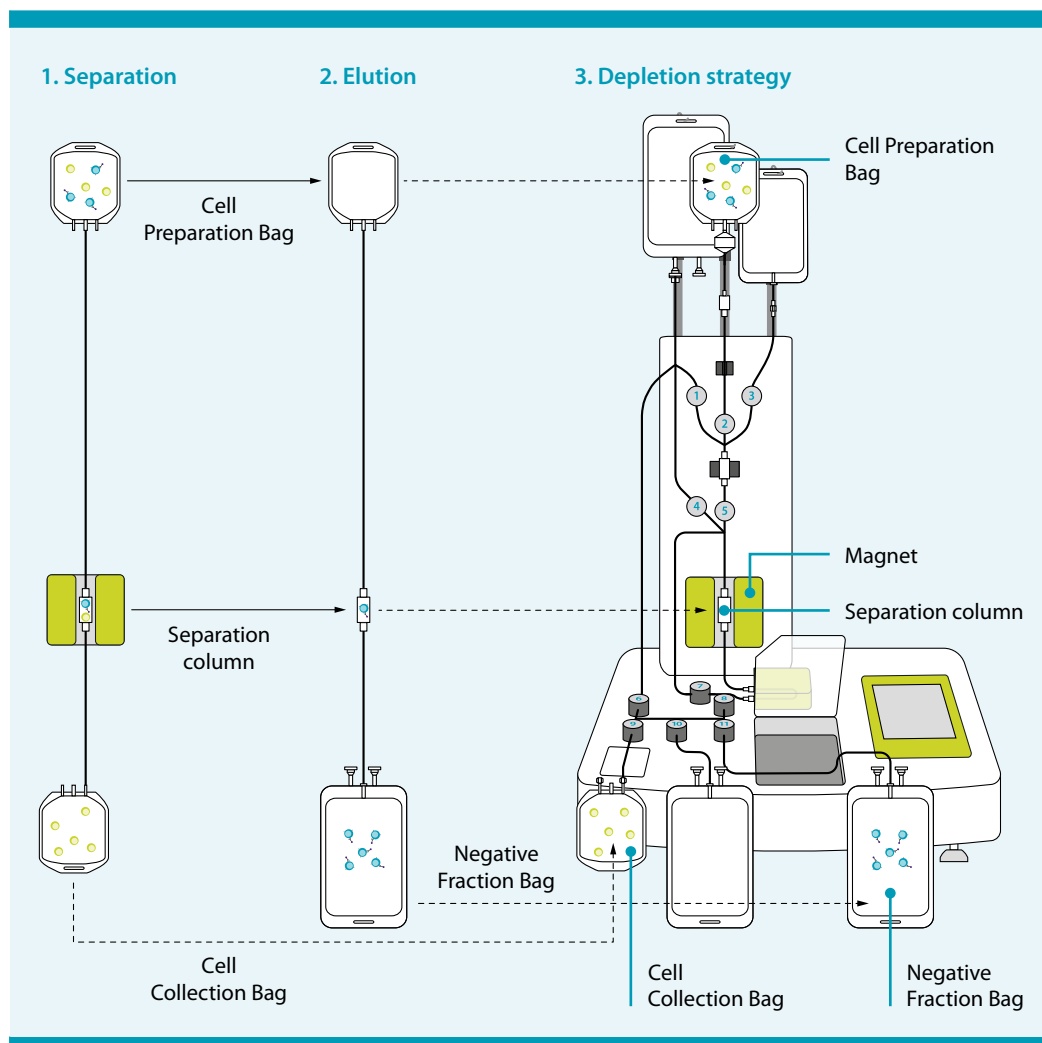
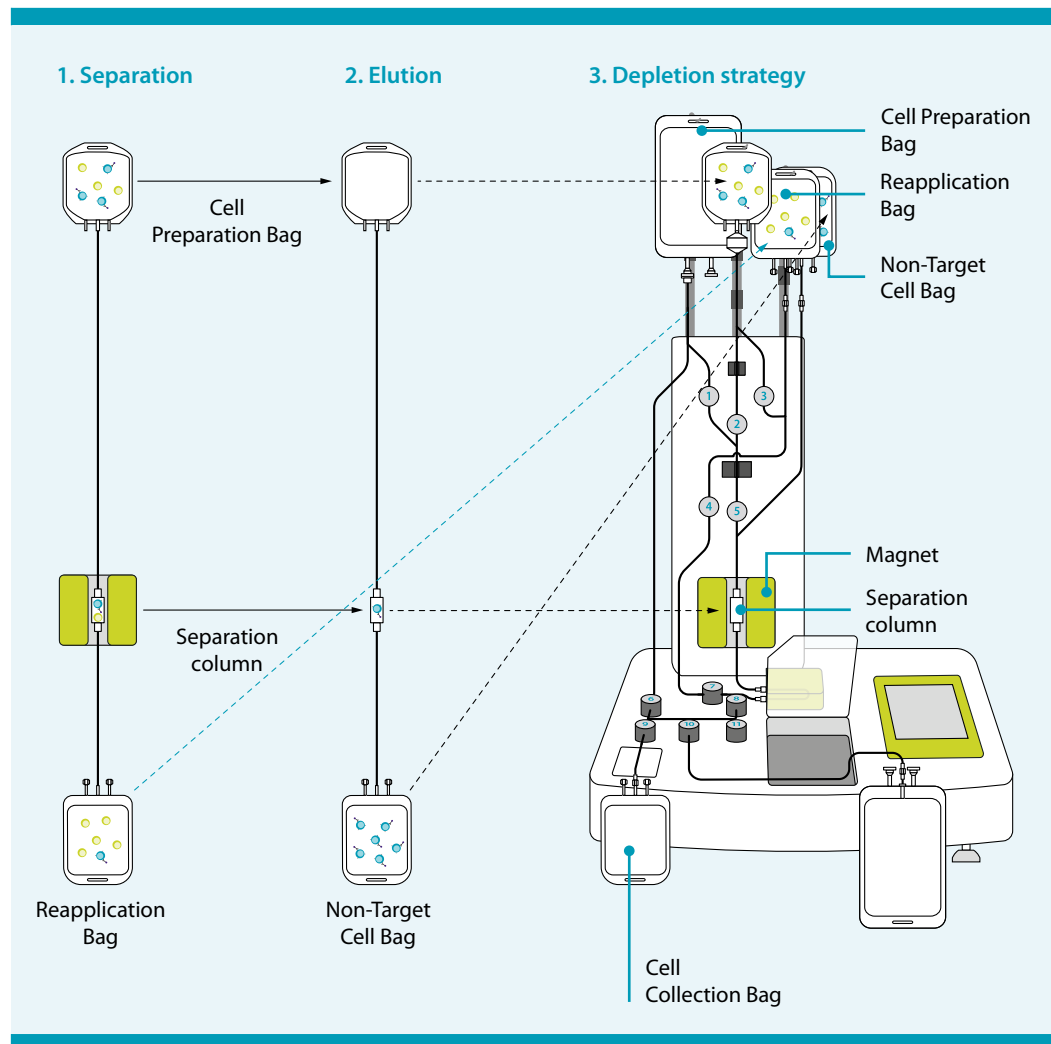
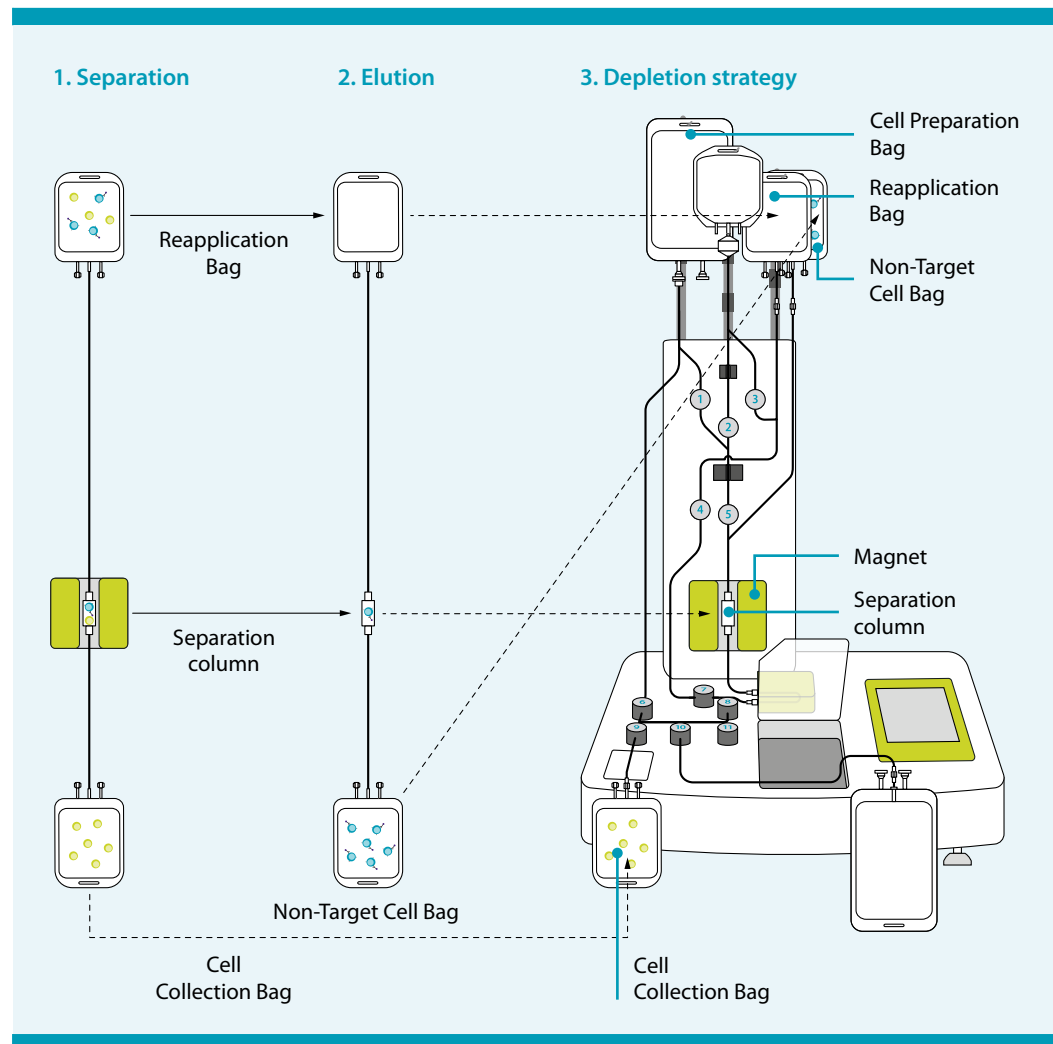

Figure 1.5: Strategy of the depletion program DEPLETION 2.1 using the CliniMACS Tubing Set LS
Figure 1.6: Strategy of the depletion program DEPLETION 3.1 using the CliniMACS Depletion Tubing Set (Part 1)
Figure 1.7: Strategy of the depletion program DEPLETION 3.1 using the CliniMACS Depletion Tubing Set (Part 2)
The MACS Technology is also very efficient for depleting specific cell populations. Unwanted cells are specifically labeled with super-paramagnetic particles and separated from target cells upon passage through the high-gradient magnetic column. In contrast to the enrichment strategy, the non-labeled cells (target cells) are collected in the Cell Collection Bag and the labeled cells (non-target cells) are collected in the Negative Fraction Bag (see Figure 1.5) or in the Non-Target Cell Bag (see Figure 1.6 and Figure 1.7) respectively.
3. The depletion program (DEPLETION 3.1) retains the magnetically labeled cells in the separation column, the non-labeled cells (target cells) flow through the column and are collected in the Reapplication Bag in order to be reloaded onto the separation column in a second sensitive depletion (see Figure 1.7). When the magnet is moved into the "OFF"-position, the magnetically labeled cells (non-target cells) are released from the column and collected in the Non-Target Cell Bag.